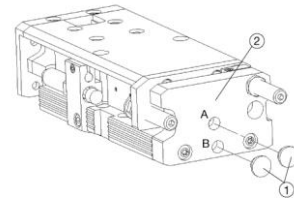

fig 5
1. Remove the protective stopper G1/8" (1) from the end plate (2)
3. Connect pneumatic hoses as per diagram; fig 5.